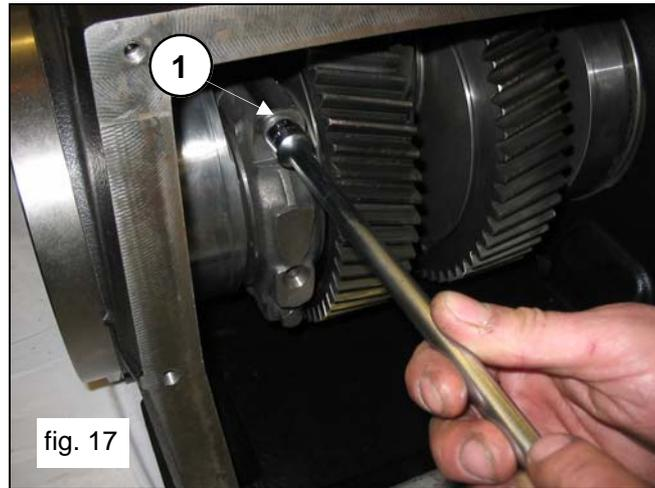

fig. 17
Unscrew the connecting rod screws (pos. ①, fig.17).